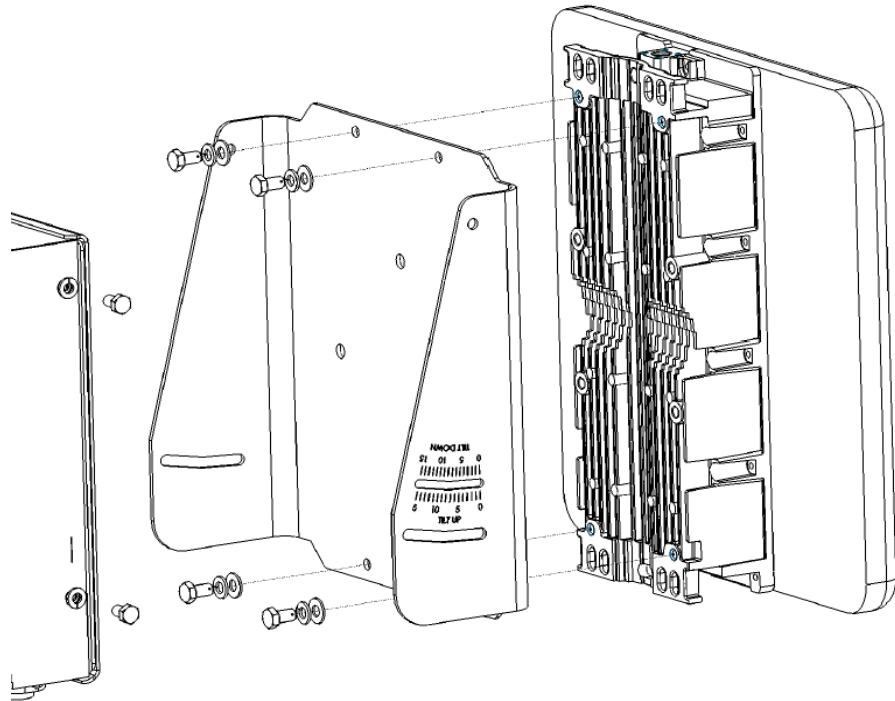

Figure 2-6: Attaching BreezeACCESS SU-ODU with HW Revision D or lower to Mounting Plate
- 2** Using the 1/4" x 1/2" hex head screws and the flat washers and spring washers supplied, attach the SU-ODU to the mounting plate as shown in Figure 2-6 in the direction marked.